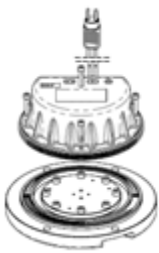

Figure 5-7
- Place the top of the lighting fixtures downwards, disassemble 4 pieces of M5×25 socket head cap screws and separate the upper cover and inner cover of the lighting fixtures (Figure 5-7).